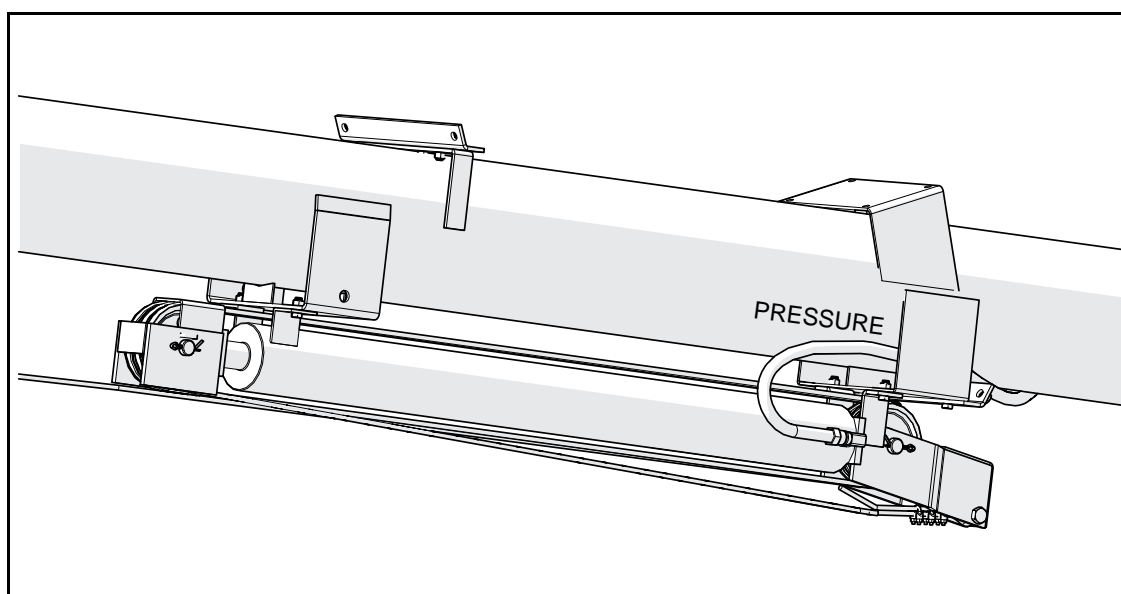

Figure 3.32 MKX100-63 Hydraulic Hose Cylinder Connection
- **MKX100-63:** Loop the pressure hose through the back-arm bracket, then run the hose under the tube and to the boot, securing the hose at brackets welded to side of auger tube and boot. Bend tops of these brackets over slightly to hold hose in place (see Figure 3.32).